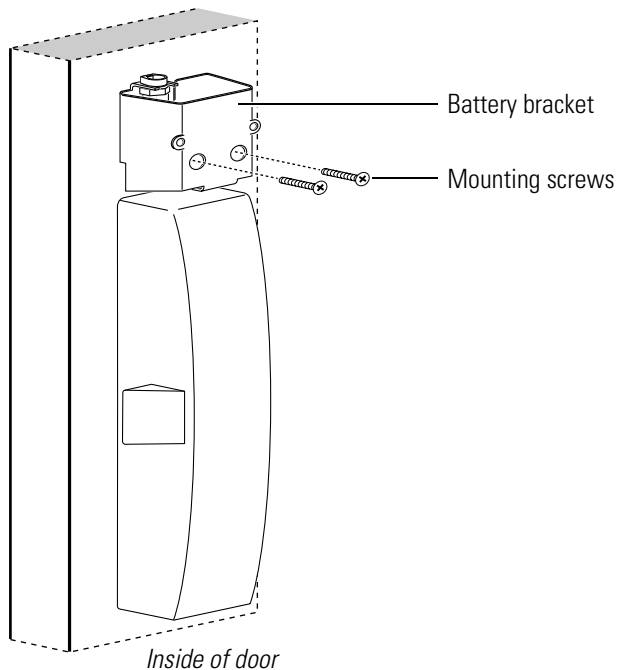

Figure 8.3 Removing and reinstalling the battery bracket on the door
2. Remove the two battery bracket mounting screws. See Figure 8.3.
3. Position the battery bracket on the inside of the door as shown in Figure 8.3.